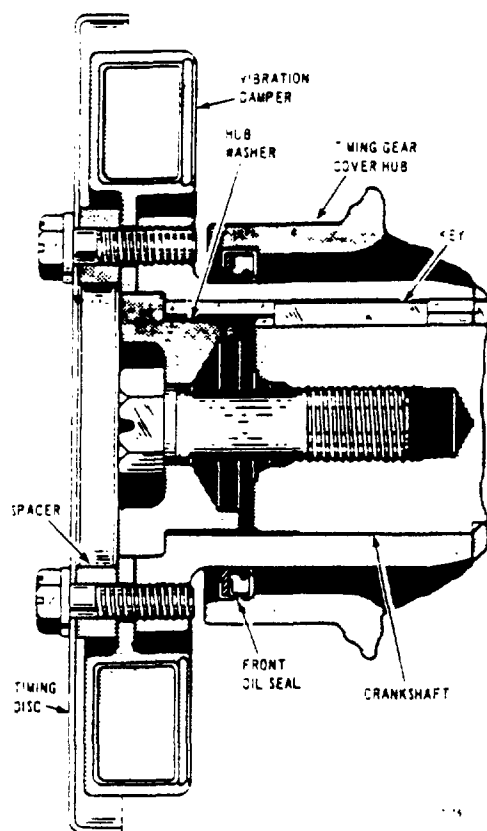

Figure 45. Vibration Damper and Hub Arrangement
3. Align crankshaft hub on key and install hub. See Figure 45.